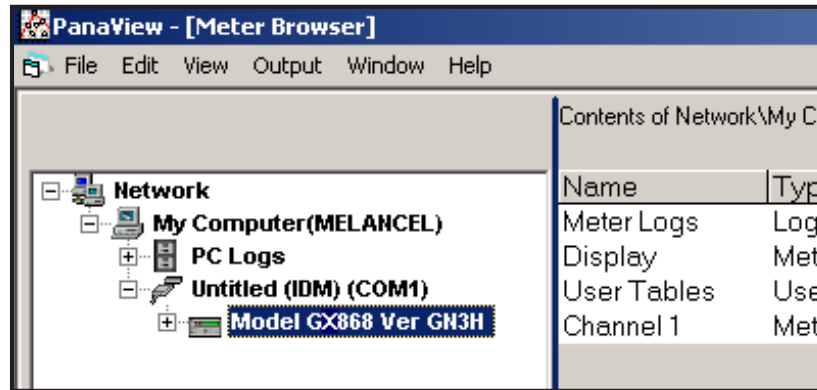

Figure 23: Updated Network Tree
If the initialization is successful, the Meter Browser shows a listing similar to Figure 23.
1. Highlight the meter (as shown in Figure 23 on page 104).